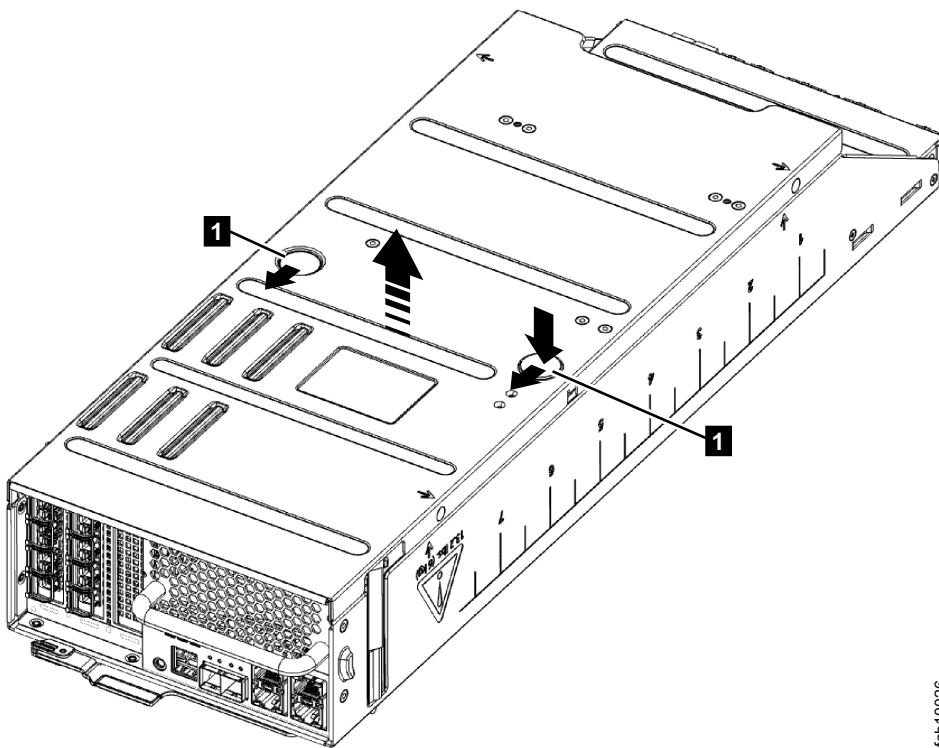

Figure 78. Replacing the canister cover
2. Open the cover of the canister by depressing the recessed, blue touch points on the lid and sliding the lid away from you, as shown in Figure 78.